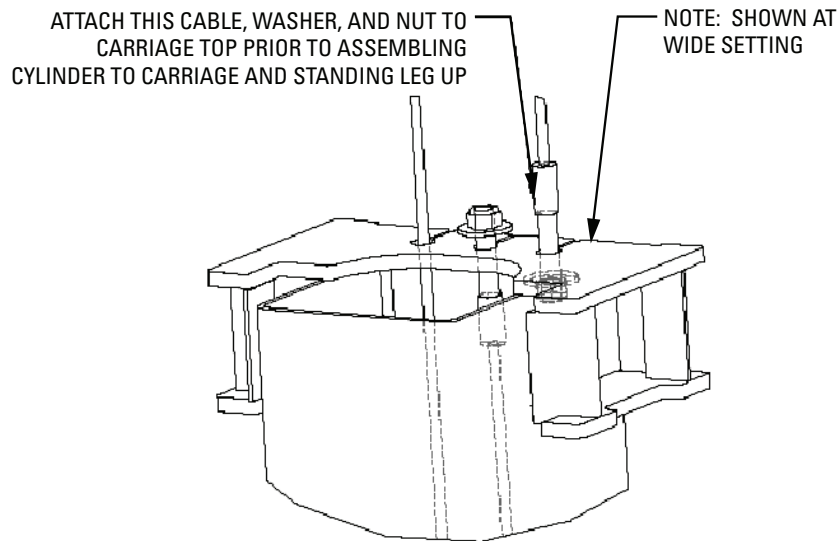

Figure 5
M. Feed one end of an equalization cable down through the rightmost hole in the carriage top, Figure 5. Continue to feed the cable until it extends out the bottom of the carriage. Attach a nylon insert locknut and washer to the end of the cable so that 1/8" of cable stud extends past the end of nut. Pull the opposite end of the cable until the washer contacts the carriage top. Repeat for the other cable/carriage.